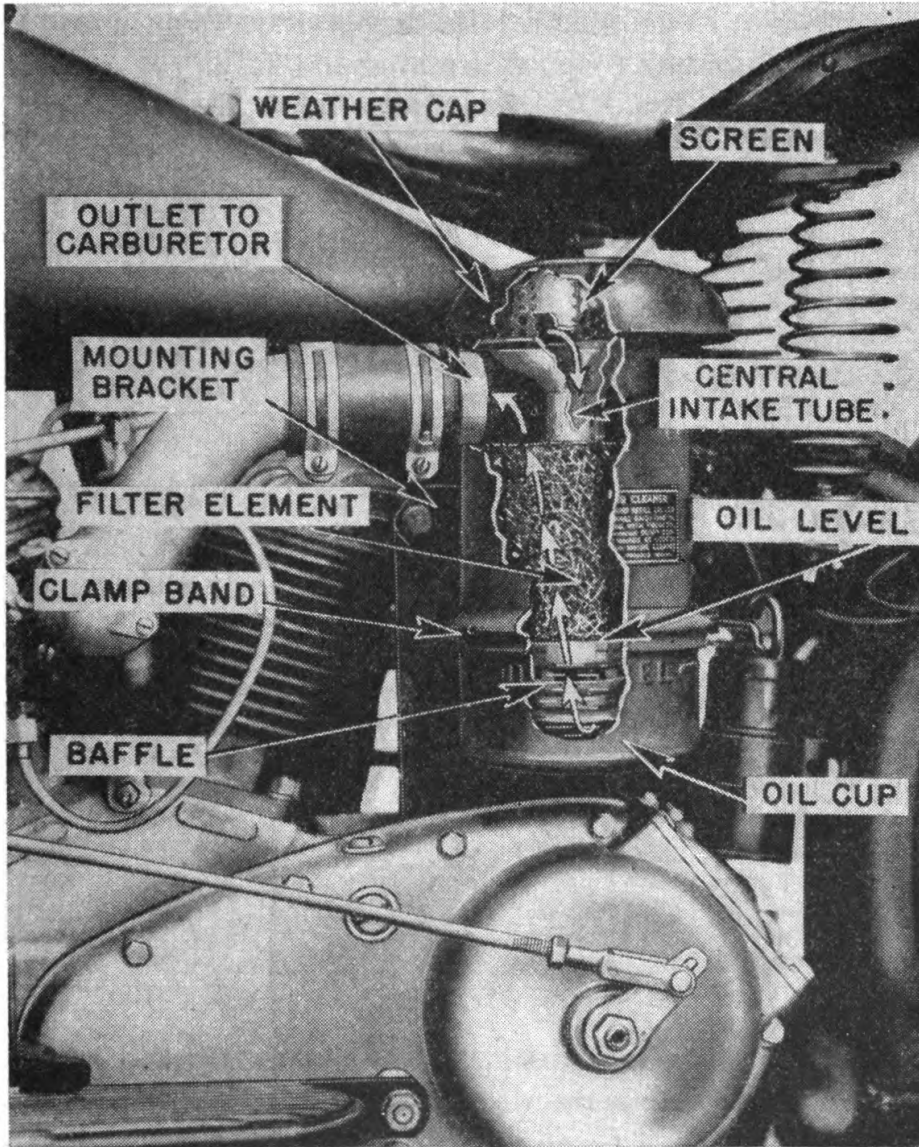
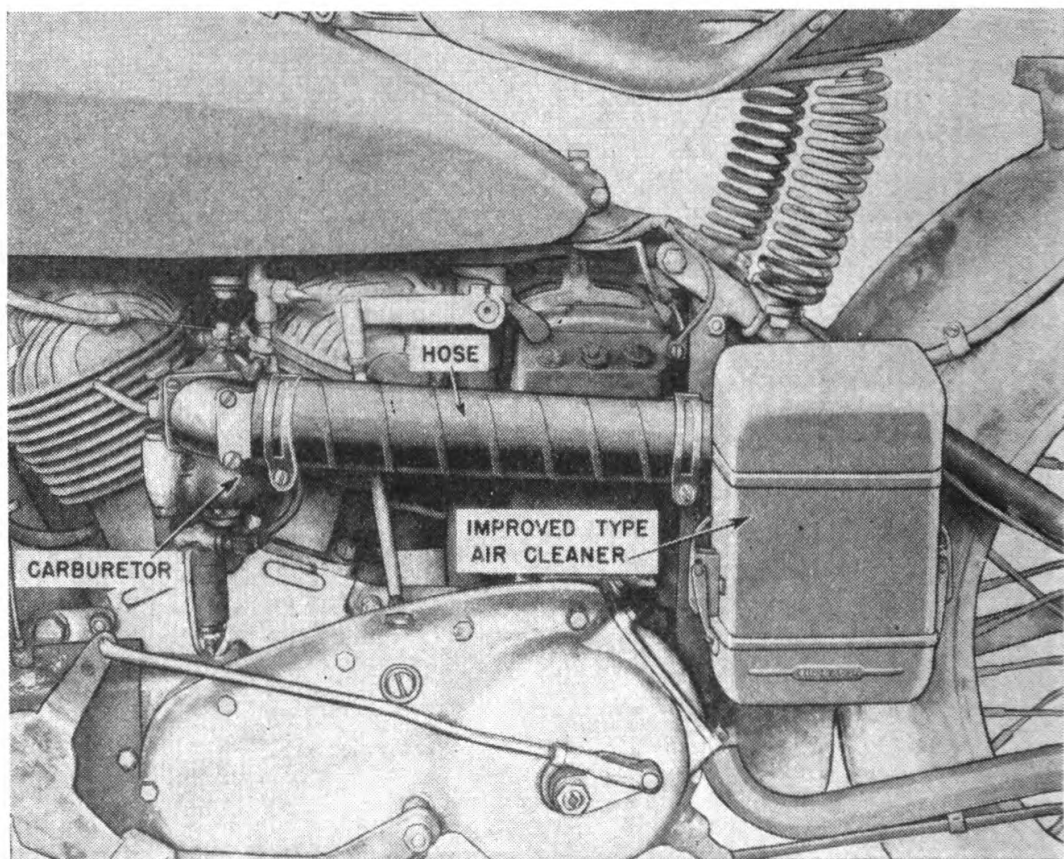

FIGURE 82.—Oil bath air cleaner.
FIGURE 83.—Improved type of oil bath air cleaner.
*b.* Oil bath cleaners (figs. 82 and 83) are used on all military motorcycles. In this type, air enters the central intake tube through a screen and is drawn through the oil which soaks the dust and other foreign matter. As the air turns upward, the wire wool filter element filters out this oil-soaked dust and foreign matter, so that only clean air enters the carburetor. Figure 83 shows an improved type of oil bath air cleaner having several features that are advantageous